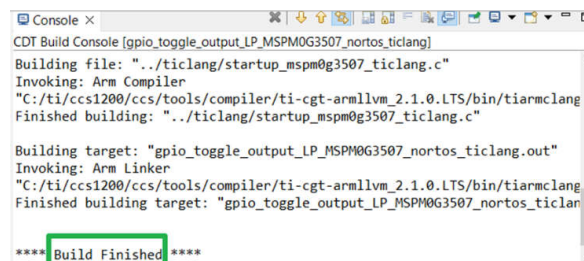

Figure 2-34. Successful Build
8. As users finish evaluating the software, click the *build* icon in the main toolbar, as shown in Figure 2-34. The appearance of *Build Finished* means the compilation is successful.